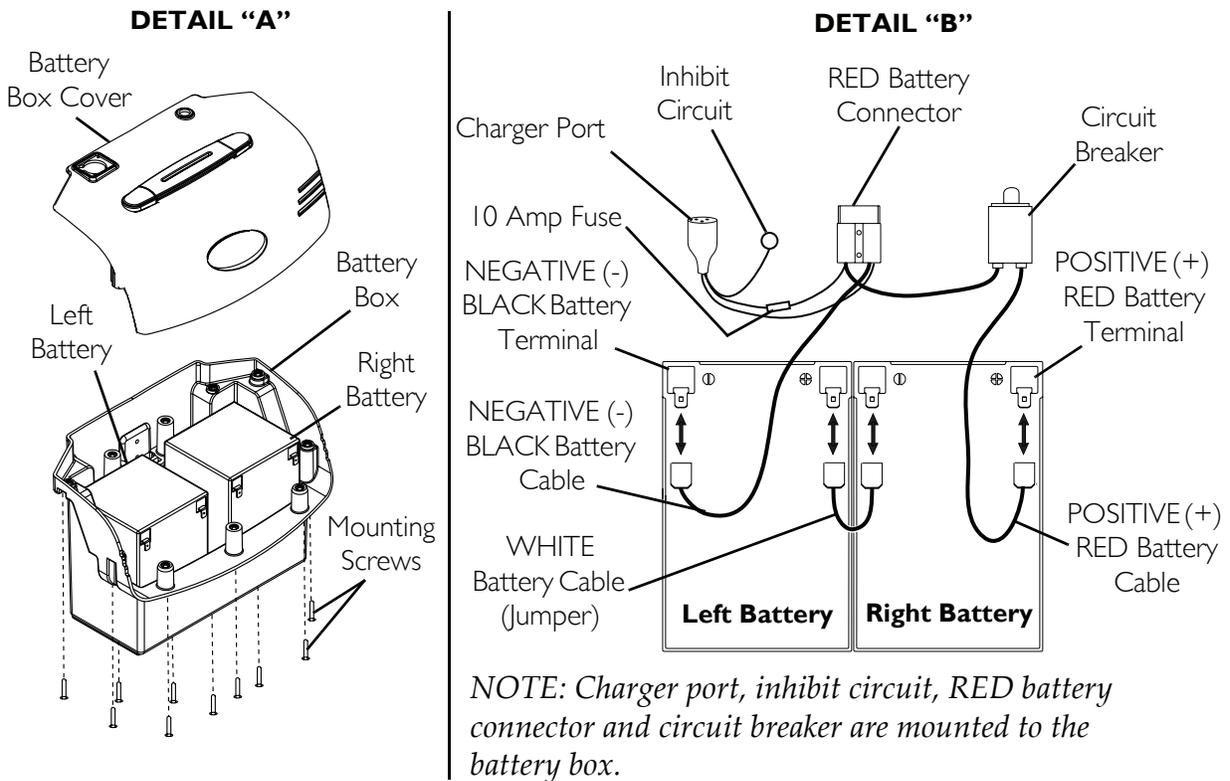

FIGURE 8.5 Removing/Installing the Batteries From/Into the At'm QT Battery Box
NOTE: For this procedure, refer to FIGURE 8.5.
2. Remove the ten (10) mounting screws that secure the battery box top to the battery box (Detail "A" of FIGURE 8.5).
3. Disconnect the wiring harness from the batteries by holding the connectors and pulling them in the following order (Detail "B" of FIGURE 8.5):
1. Install the two (2) new batteries into the battery box.
2. Connect the wiring harness to the batteries in the following order (Detail "B" of FIGURE 8.5):
3. Replace the top of the battery box and secure with the ten (10) mounting screws (Detail "A" of FIGURE 8.5). Securely tighten.